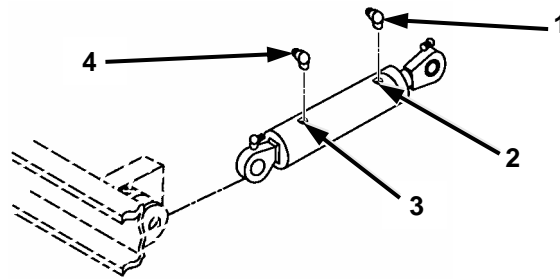

Figure 2-26. Hydraulic Track Adjuster Cylinder (1 of 4).
- a. Install elbow 4-6 C5OX-S (Figure 2-26, 1) to front cylinder port (2).